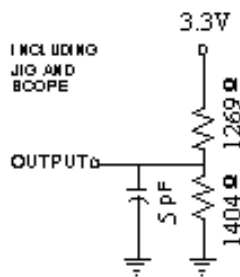

FIGURE 1B
5. Transition is measured $\pm 500mV$ from steady state with $CL = 5pF$ as shown in Figure 1B. The parameter is guaranteed but not 100% tested.
10. Transition is measured $\pm 500mV$ from steady state with $C_L = 5pF$ as shown in Figure 1B. The parameter is guaranteed but not 100% tested.